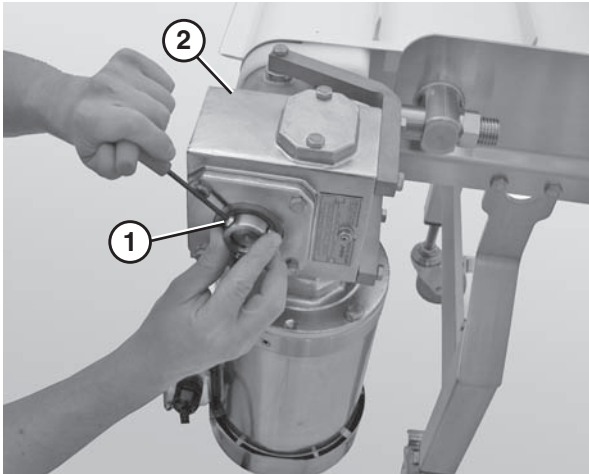

Figure 24
- Loosen the drive spindle fasteners (**Figure 24, item 1**) located on the inside and outside of the gearmotor assembly using a 4 mm hex wrench (**Figure 24, item 2**).